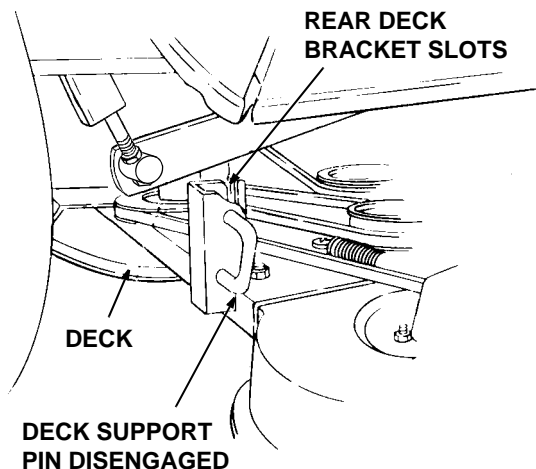

Figure 55
6. If not already done, pull the deck support pins outward, turn downward and release so both spring-loaded pins are held in the disengaged position against the outer surface of the deck brackets (Refer to Figure 55).